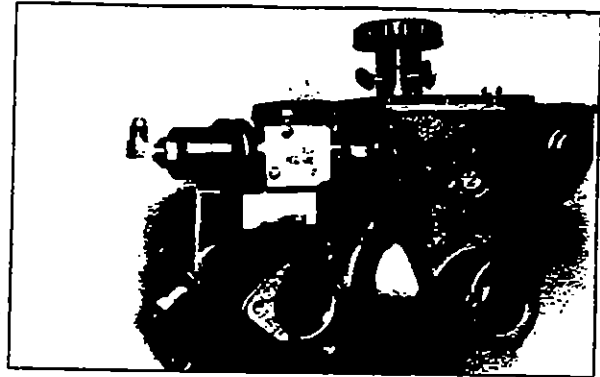

Fig. 1.6.13
- Adjust the switch bracket clamp to line up with the Detroit Diesel housing-to-blower bolt (Fig. 1.6.13).